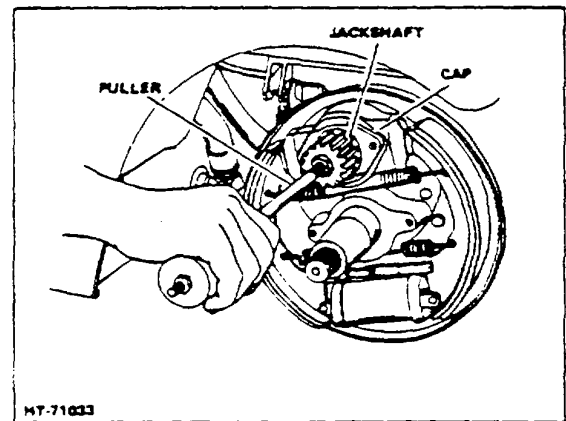

Figure 1-4. Removing Jackshaft
- g. Install a slide hammer puller (Fig 1-4) in threaded hole in the end of the jackshaft; carefully remove jackshaft and bearing assembly from housing as a unit.